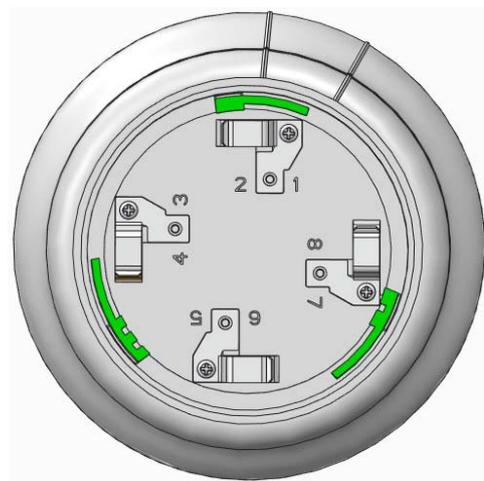
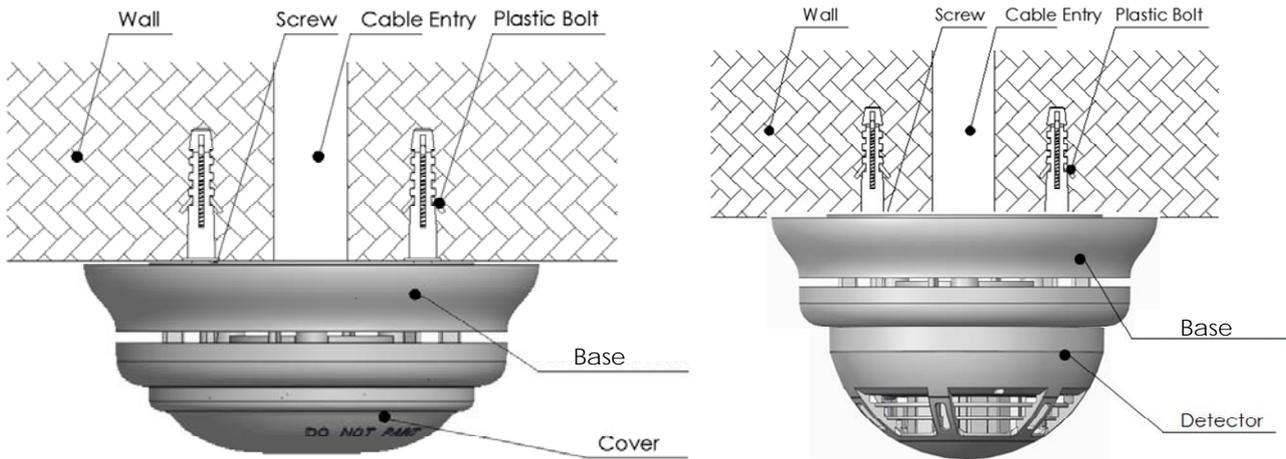

Fig.3 Top structure of the Sounder Base
Fig.4 Addressable/Conventional Sounder Base with an upper cover or a detector
3. The top structure of the Addressable/Conventional Sounder Base as shown in Figure 3. An upper cover or a detector can be mounted on the Addressable/Conventional Sounder Base, as shown in Figure 4.